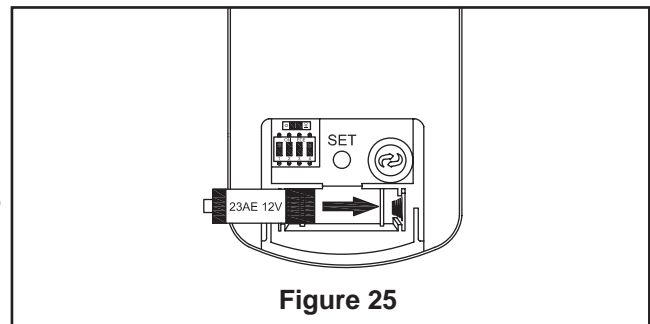

Figure 25
2. To make fan operational, install 23A/12V battery (included) in hand-held remote transmitter, with fan power off, arrange code switches to desired code setting. Then follow the remote code setting process. (If not used for long periods of time, remove battery to prevent damage to transmitter). Store the remote away from excessive heat or humidity (Figure 25).